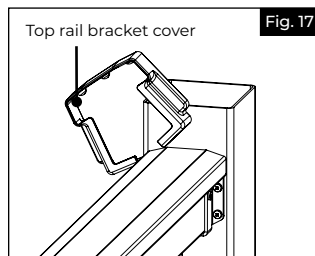

Fig. 17
- c. Open the top rail bracket cover to allow it to wrap around the top rail (Fig. 17). While open, make sure the "tab" fits behind the rail and against the post.